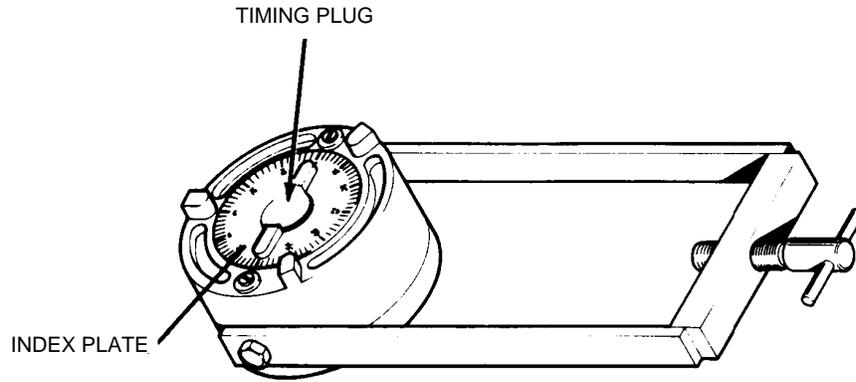

Figure 8-10 Index Plate and Timing Plug
8-28. REASSEMBLY OF MAGNETOS. (4200 series) (Refer to Figures 8-10 thru 8-13.)
***Before using the slick T-100 assembly and timing tool, it will be necessary to align the index plate (bottom of tool) to number 67 to time the magneto. (Refer to Figure 8-10.)***